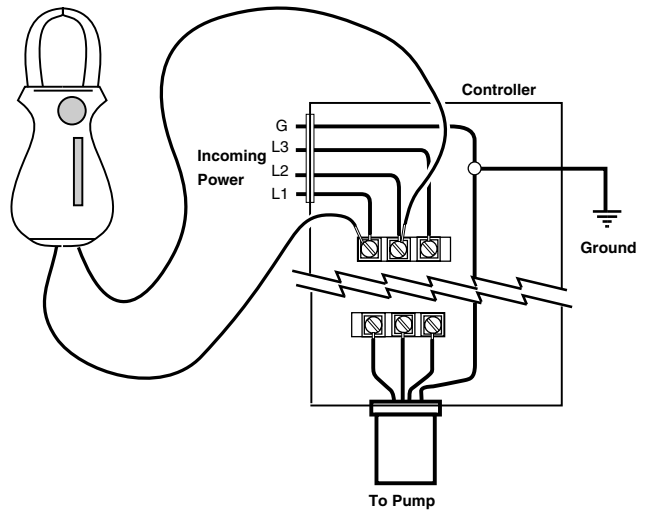

Figure 12 - Voltage Test
2. Connect power and start pump (Figure 12). For 3-phase motors, read voltage across three pairs of leads (L1 – L3, L3 – L2, L2 – L1) while pump is operating. For single phase motors, read voltage across L1 and L2 while pump is operating. Voltage should be within $\pm 10\%$ of motor nameplate rated voltage. If not, consult power company.